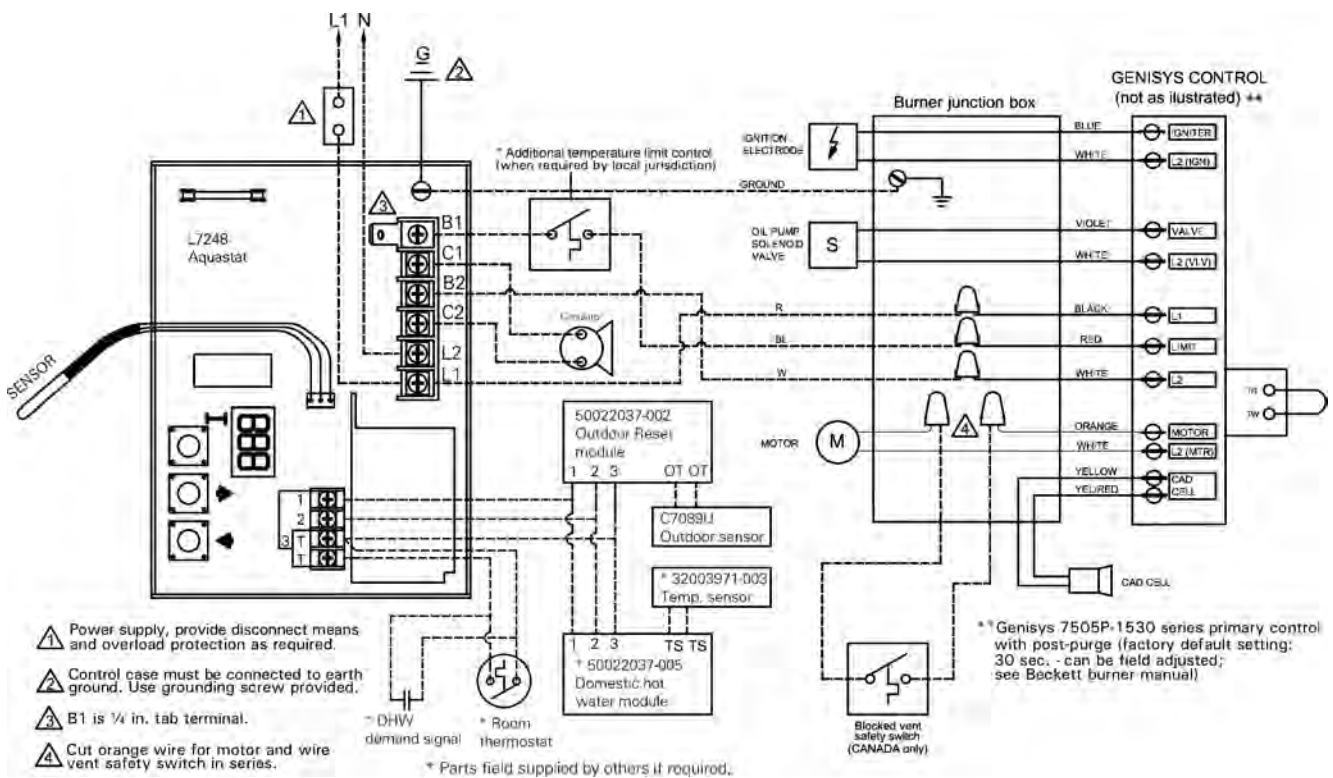

Fig. 26
1. Run the **41** plug-in connector cable of the Vitotronic control down behind the front panel of the boiler and out through the bottom. (Fig. 26)
2. Connect the female **41** plug of the burner to the male **41** plug of the Vitotronic control. (Fig. 26)